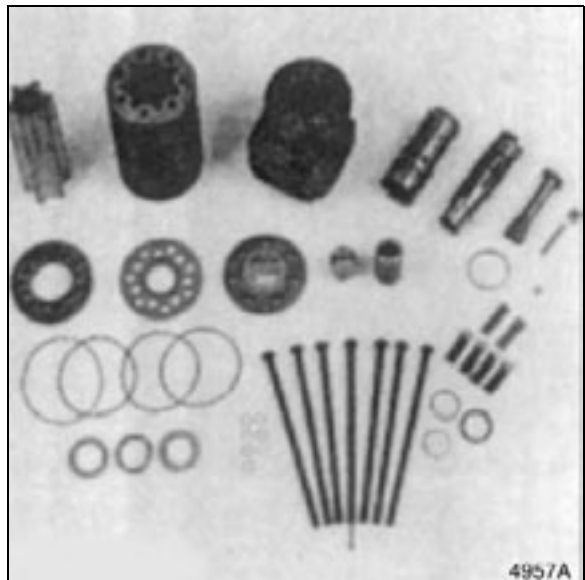

Figure 28
19. Figure 28, shows all parts removed from steering unit. Clean all parts before assembly. Use only new O-rings and seals.